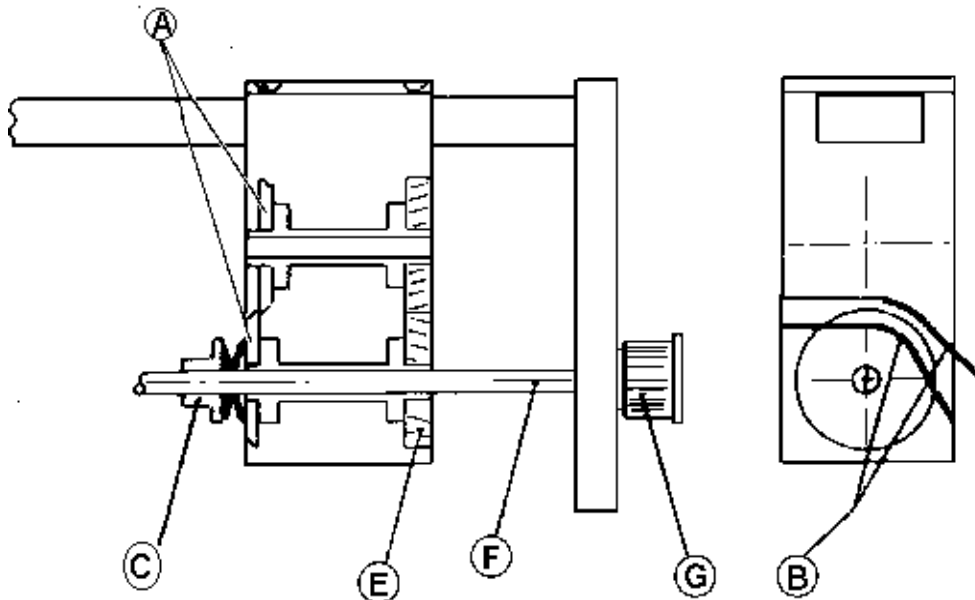
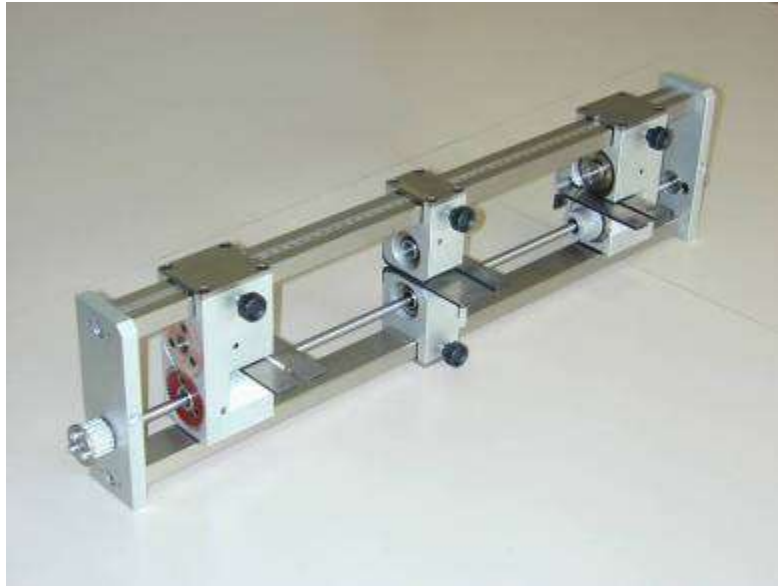

Fig. 5
Fig. 6
The cartridge TC 1002 (fig.6) has two couples of circular knives, Fig.5 (A), for trimming one the left and one the right side of the paper module.